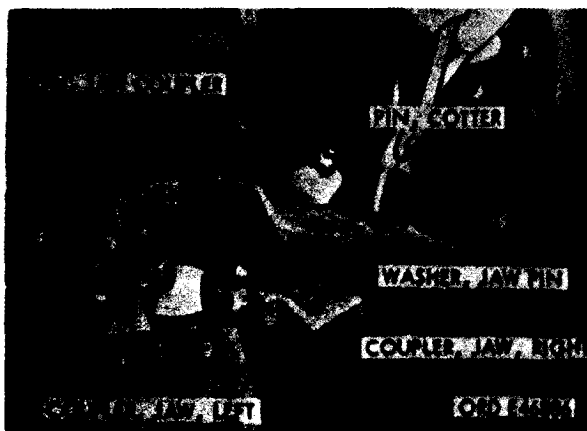

Figure 117. Removing jaw coupler pins.
- (9) Remove cotter pins from jaw coupler pins' (fig. 117) and drive coupler pins out of fifth wheel.
- (10) With the jaw coupler pins removed, pull jaw couplers from fifth wheel.
Note. Be sure to pick up jaw pin washers (fig. 117).
- (5) Position left and right jaw couplers (fig. 117) in fifth wheel and align jaw pin washers.
- (6) Install jaw coupler pins (fig. 117) and secure with cotter pins.